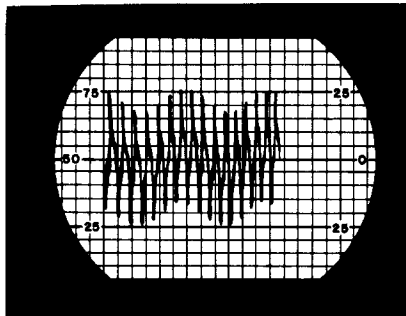

Figure 3.
(7) Apply a 1000 cps test tone to pin 2 of the microphone input jack (base of the amplifier-clipper stage Q110). Place a 0.33 uf capacitor in series with the tone generator output.
(8) Adjust the 1000 cps input signal level for 1 volt and note the resultant combined deviation of the 1000 cps modulation and tone signal modulation on the oscilloscope.
(9) The IDC control on the transmitter should be adjusted to provide a peak-to-peak combined signal of 10 squares, equivalent to full 5 kc as shown in figure 3.